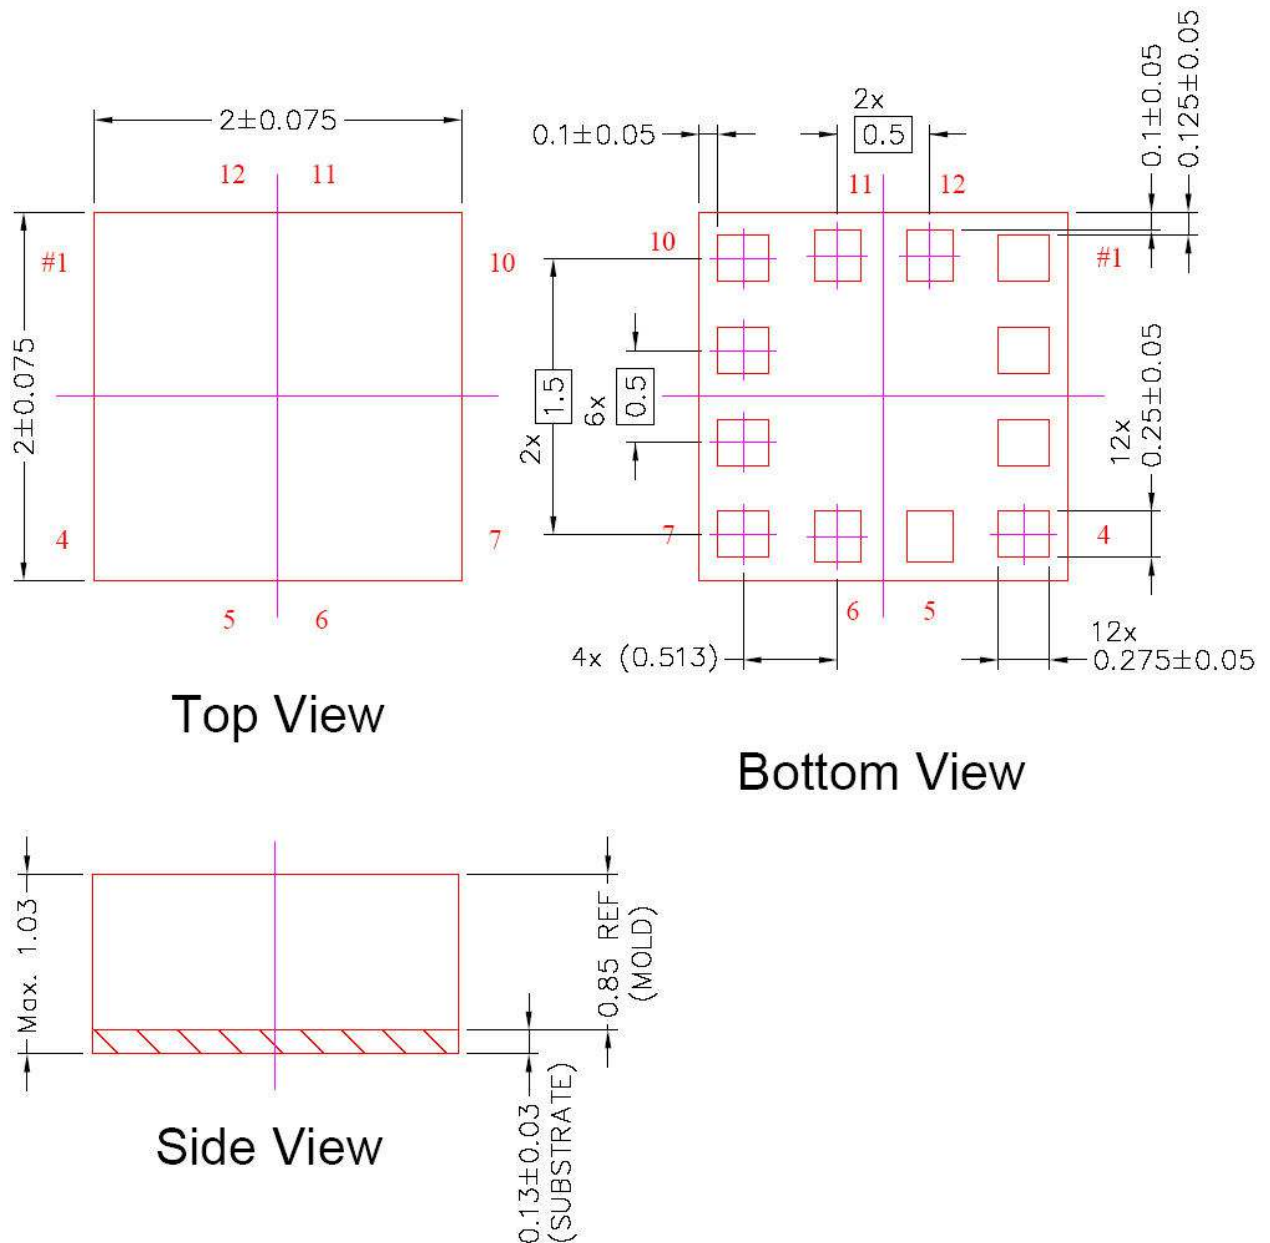

Figure 28: Outline dimensions (in mm)
9.2	Added recommendation, modified fig. 28